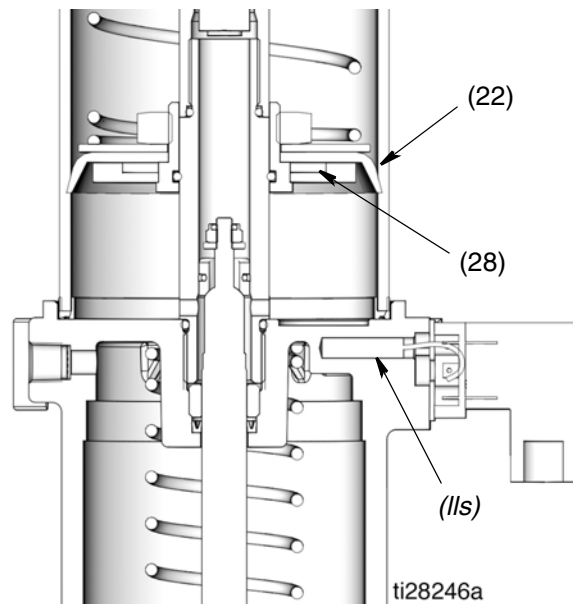

FIG. 9
As grease is dispensed, the follower plate (22) travels down the reservoir. When it gets close to the low level switch (lls) the magnet (28) on the bottom of the follower plate assembly activates the normally closed low level switch; opening the switch and sending a signal to the lubricator controller (J) (FIG. 9).